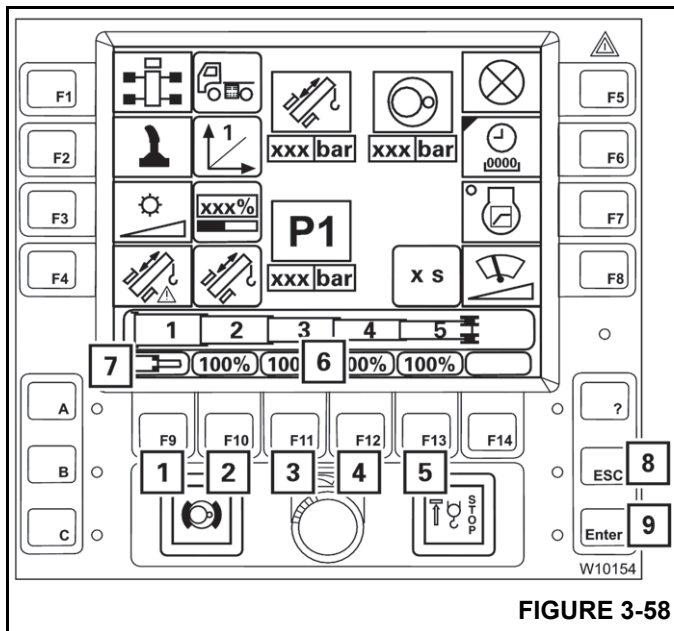

FIGURE 3-58
The telescope display (6) (Figure 3-58) shows the values for telescopic sections 1 to 4.
1. Select a section; press one of the F9 to F13 buttons (1) to (5), the values in the display (6) turn yellow.